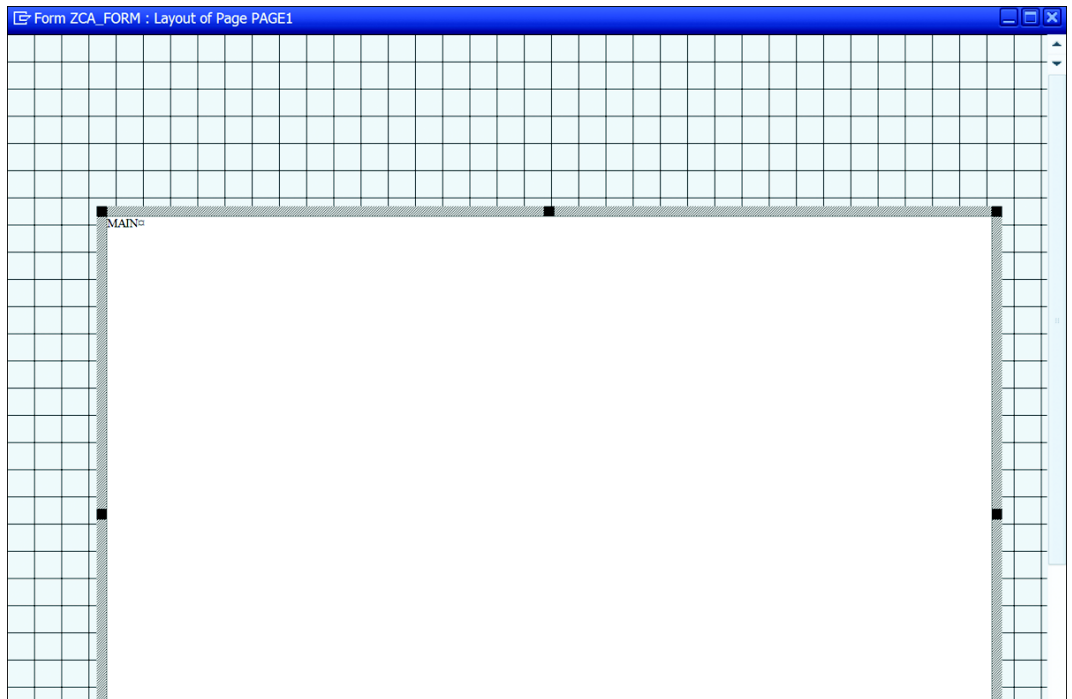

Figure 18.6 Graphical Form Painter
4. The graphical Form Painter opens in a separate screen, with one default main window created (see Figure 18.6).